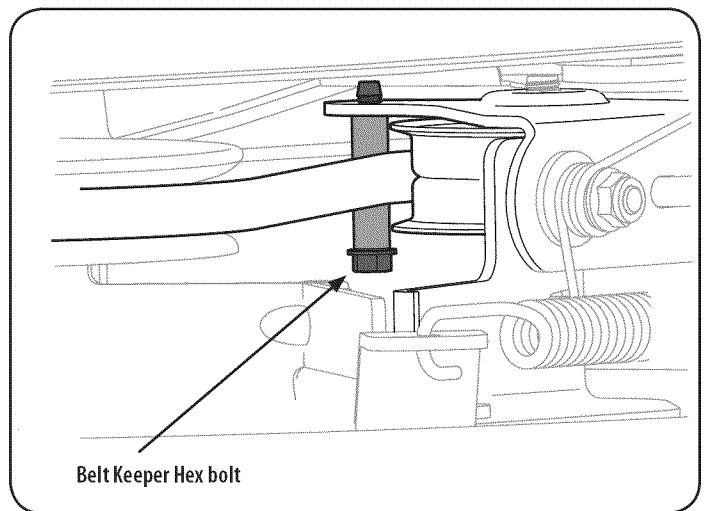

Figure 38
6. Remove the belt keeping spacer by removing the hex bolt that secures it. See Figure 38.